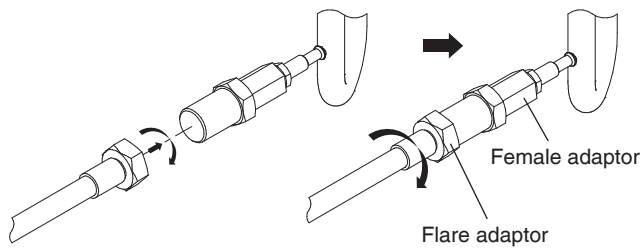

Figure 6
5. Install the copper tube assembly to the adaptor. (Figure 6)